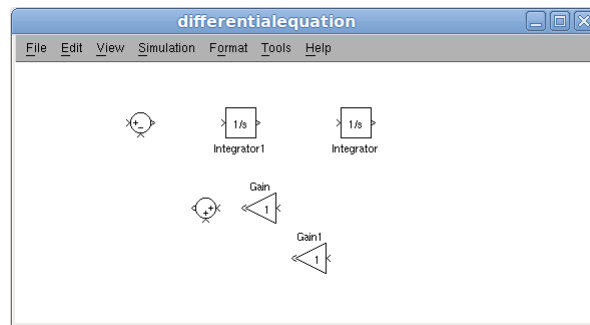

Figure 3: Simulink model with integrators, sums and gains
5. Next, two **Gains** are placed on the work space, see Figure 3.